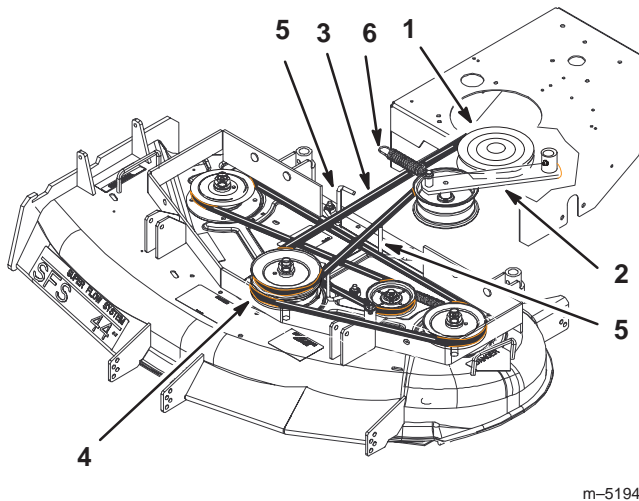

Figure 62
5. Remove the idler spring from idler arm. Remove the drive belt from the PTO engagement pulley and the center spindle pulley (Fig. 62).
6. Remove the worn drive belt (Fig. 62).
7. Install the new drive belt onto the PTO engagement pulley and the top groove of the center spindle pulley (Fig. 62).
8. Install belt onto idler pulley and then install idler spring (Fig. 62).
9. Adjust PTO drive belt guides an 1/8 in. (3 mm) from belt (Fig. 62).